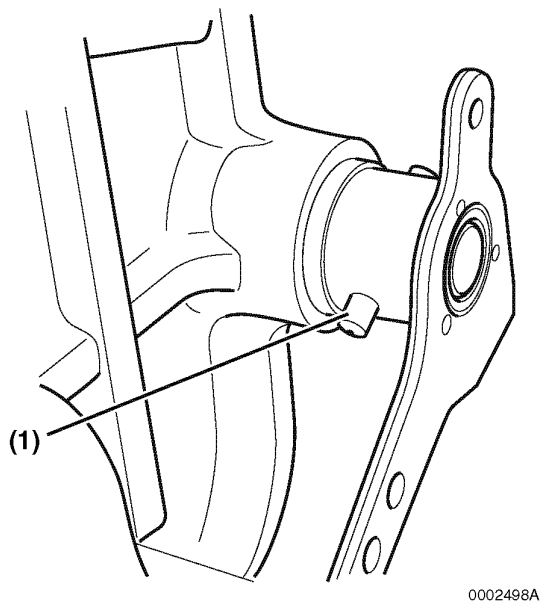

Figure 8-80
3. Remove the pin (**Figure 8-80, (1)**) fastening the speed control lever to the throttle shaft. The pin is tapered and must be driven out in the correct direction. Use a pin punch to drive the tapered pin out. Use square solid blows because the pin is held very tightly in the hole.